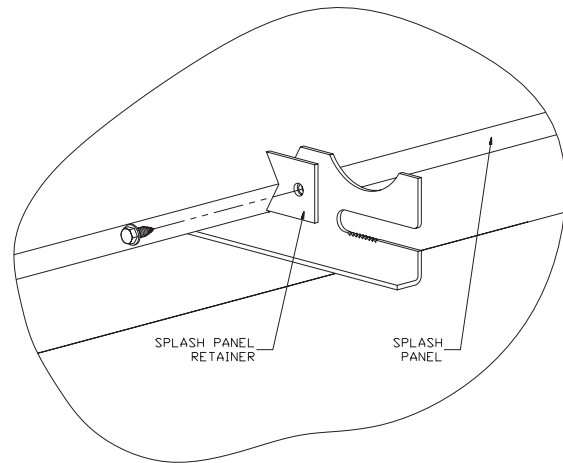
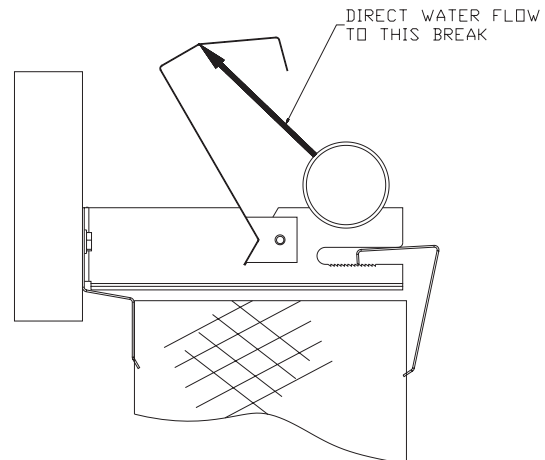

Figure 12
Figure 14
4. Secure the splash panels in place with the splash panel retainers as shown in Figure 12 using the #10 x 1/2" screws provided.
5. Place a 10' section of 1 1/2" pipe (with the metered holes pointing to the slight break in the splash panel as shown in figure 14) into the pipe holder brackets at the drain end of the system. Enough pipe should extend beyond the top cover support to later attach a 90° elbow for plumbing installation as in Figure 12.
6. Install a 1 1/2" slip joint coupling on the pipe end away from the drain and assemble another 10' section of pipe. **Do not use pvc cement on these joints.** The coupling and pipe should be pushed tightly together **but not cemented.** Make sure the metered holes point to the slight break in the splash panel as shown by the arrow in figure 14 so the system will have proper water distribution.
7. Install the remaining pipe using the 1 1/2" coupling (no cement), always making certain that the metered holes point the proper direction as shown in Figure 14. Again, each pipe should extend beyond the opposite end to later attach a 1 1/2" tee for installation of the bleed-off clean-out assembly.